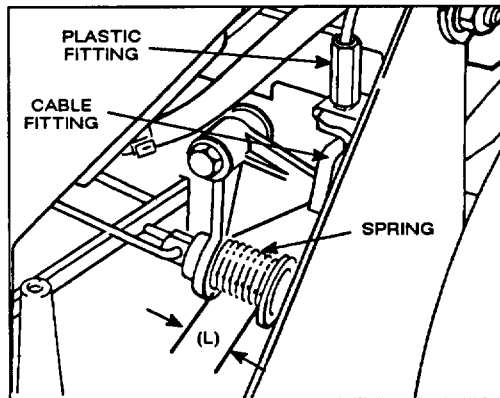

Figure 21
3. Move control bar down and lift up against handle. With control bar against handle, measure spring length (L) at the front of the spring as shown Figure 21.
5. To adjust, turn plastic fitting (Fig. 21) counterclockwise until spring dimension is as near as possible to but not less than 1". (See note below.)
5. Remove screen panel on mower housing and clean around blade brake mechanism (Fig. 21).